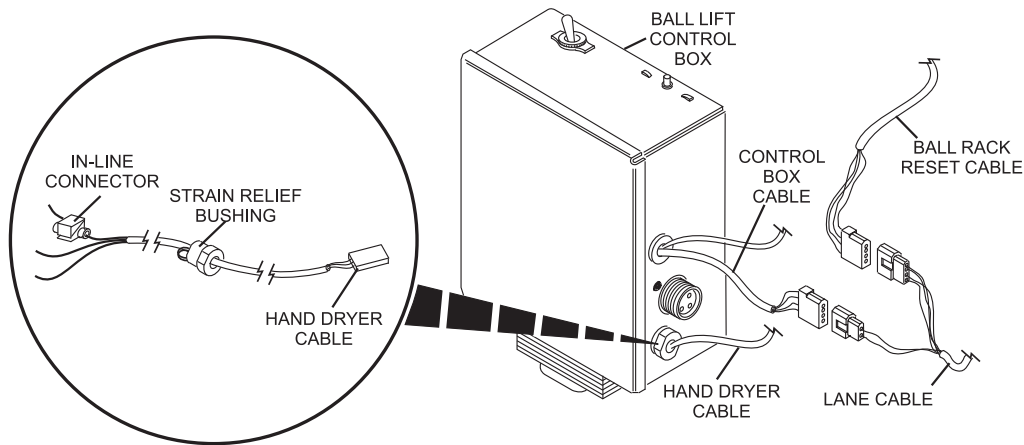

Figure 1
1. Drill a 21/32" (18 mm) in the ball lift control box on the side with the most open area. Remove all metal debris left from the drilled hole. Refer to *Figure 1*.
2. Slide the strain relief bushing onto the hand dryer cable assembly with the white red and black wires. Six to eight inches (152 mm to 203 mm) of the wire should extend beyond the bushing. Refer to *Figure 1*.
3. Run the end of the cable with the strain relief bushing through the hole previously drilled in the control box until the bushing snaps into place. Refer back to *Figure 1*.